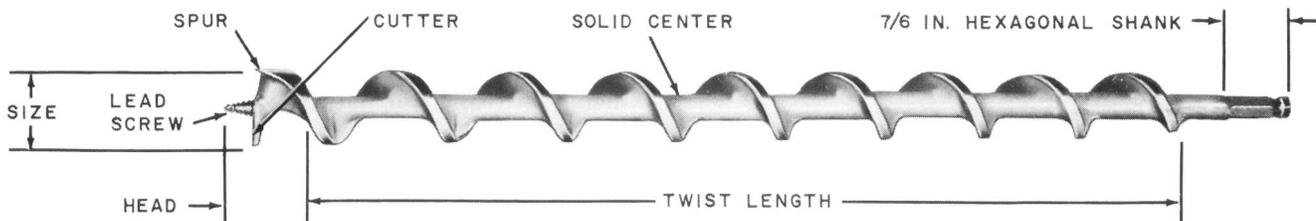

Fig. 5 — B Power Bit
2.15 The B power bit (Fig. 5) consists of a solid center twist provided with a head containing a single spur, a single cutter, and a lead screw, and is provided with a 7/16-inch hexagonal shank to fit the chuck of the B impact